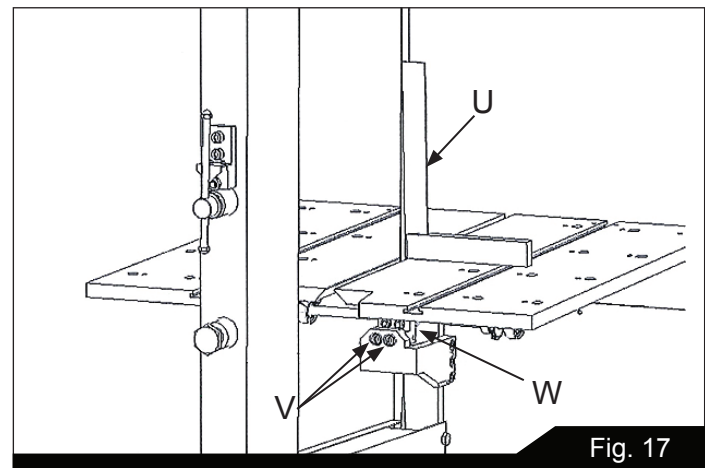

Fig. 17
2. Use a square (U, Fig. 17) to check that the blade is perpendicular to the tabletop.
3. If alignment is necessary, loosen the two (2) bolts (V, Fig. 17) holding the lower blade guide assembly.
4. Move the lower blade guide block (W, Fig. 17) to the left or right as necessary.
5. Retighten the two (2) bolts loosened in Step 3.